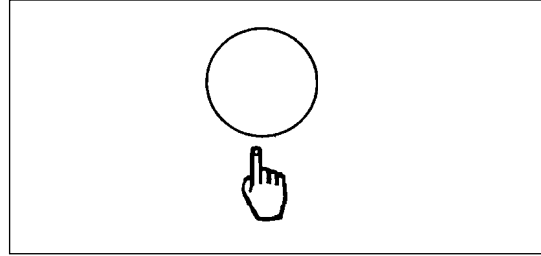

Figure 17
1. Press and hold the green one touch button (figure 17) until you hear a *double beep* from the machine. **NOTE: The time required for this will be approximately 15 seconds.**